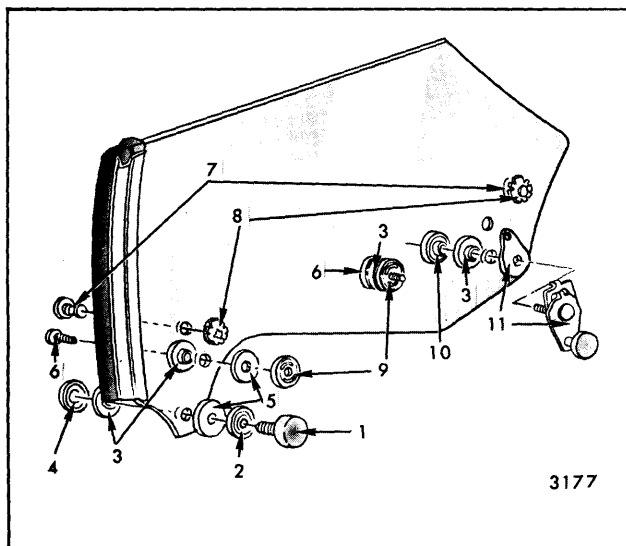
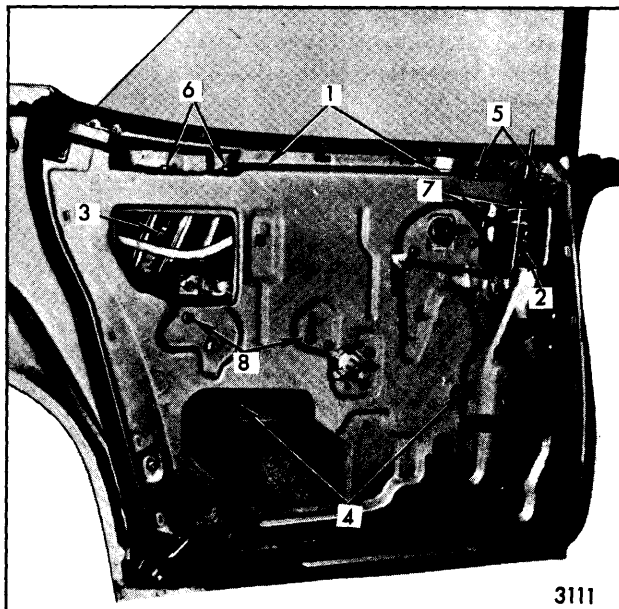
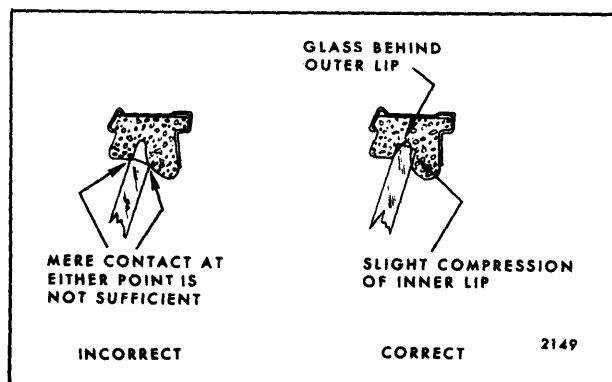

Fig. 6-123—Rear Door Window Assembly - “B-39” and “C-39, 49 and 69” Styles
Fig. 6-124—Rear Door Removal and Adjustments - “B-39” and “C-39, 49, and 69” Styles
Fig. 6-125—Window to Side Roof Rail Weatherstrip Alignment
Figure 6-123 is an exploded view of the window assembly and identifies the various components and their assembly sequence.
2. Remove front and rear window stabilizer strips (“1”, Figure 6-124).
3. Remove front and rear window up-travel stops (“2”, and “3”, Figure 6-124).
4. With window in a three-quarter-down position, remove lower sash channel cam to glass attaching stud nuts (“4”, Figure 6-124). Lift window upward and remove from door.
1. In-and-out adjustment of the glass is controlled by the in-and-out adjustment available at the top of the front and rear guides (“5” and “6”, Figure 6-123) and the in-and-out position of the glass stabilizer strips (“1”, Figure 6-123).
2. Fore-and-aft adjustment of the window assembly is controlled by the position of the front guide. The upper attaching locations in the front guide upper support (“7”, Figure 6-124) are slotted to permit fore-and-aft adjustment of the guide. Because the roller assembly (bell-crank, Figure 6-123) which attaches to the glass at the rear pivots, the rear guide does not have to be adjusted during fore-or-aft window alignment.
3. Ease of window operation and window stability depends to a great extent on the adjustment of the window stabilizer strip assemblies (“1”, Figure 6-124).
4. A window that is rotated (cocked) in the window opening may be the result of an improperly adjusted inner panel cam ("8", Figure 6-124) or poorly adjusted up-travel stops ("2" or "3", Figure 6-124).
5. The up-travel of the window is determined by the adjustment of the front and rear up-stops "2" and "3", Figure 6-124). To adjust window up-travel, loosen front and rear up-stops and operate window to desired position to establish proper glass to side roof rail weatherstrip contact (Figure 6-125). Tighten up-stop attaching bolts.